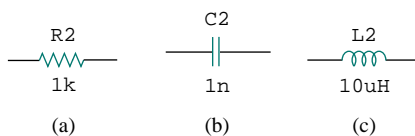

Figure D.3 Part symbols and attributes for circuit elements: (a) a resistor, (b) a capacitor, (c) an inductor.
- Use scroll bar to select the part (or type the part name, e.g., R for resistor, in the *PartName* box). Figures D.3 to D.5 show
As shown in Figs. D.3 to D.5, each component has an attribute in addition to its symbol. Attributes are the labels for parts. Each attribute consists of a *name* and its designated *value*. For example, R and VSRC are the names of resistor and voltage source (dc, ac, or transient source), while 2k and DC = +10V are the designated values of the resistor and voltage source, respectively.